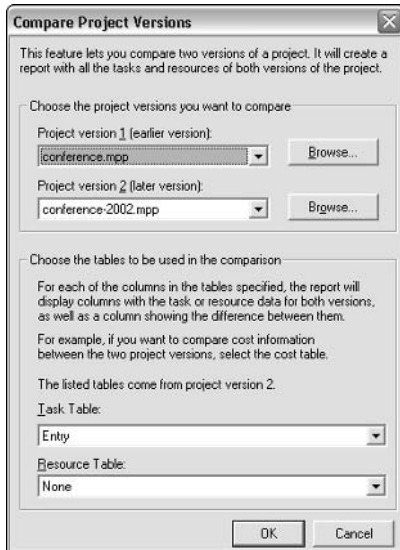

Figure 26-33: Use this box to select two projects to compare.
- ♦ When updating existing project data, first import to a new project and use the Compare Project Versions utility to confirm correct mappings. Display the Compare Project Versions toolbar and click the Compare Project Versions button. Project displays the box you see in Figure 26-33. Select the two projects and the task and resource tables to compare.